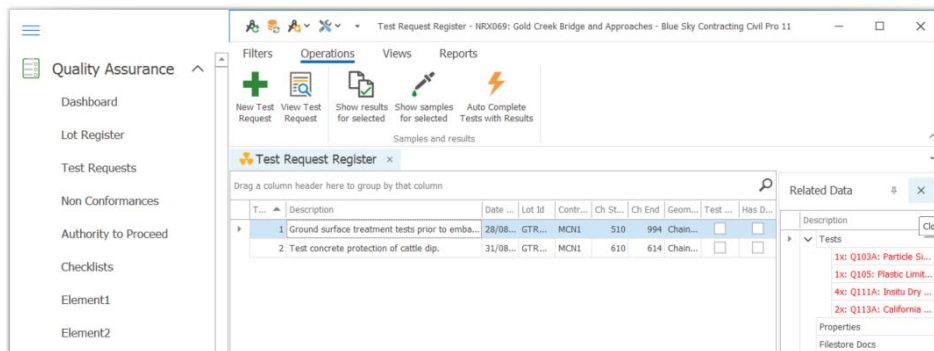

Figure 102 Selecting Show Results for Selected from Ribbon Menu
2. Select the first test request (Test1) from the register, then select *Operations* in the ribbon menu at the top of the screen and click on *Show Results for Selected* as in Figure 102.